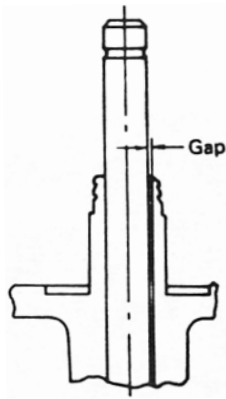

Figure 9
2. Measure the gap between the valve guide and valve stem, Figure 9. If the gap exceeds specified limits page 27, replace the cylinder head and valves.